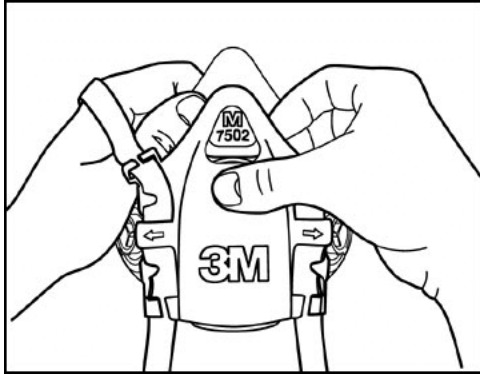

Fig. 17
3. Examine all plastic parts and gasket areas for signs of cracking or fatiguing and replace if necessary. Remove the exhalation valve cover and examine the exhalation valve and seat for signs of dirt, distortion, cracking, or tearing. Replace the valve if necessary. Secure the valve cover prior to use. (Fig. 17)
1. Remove 3M™ 7581 valve cover/Head Harness Assembly by pulling away from facepiece. (Fig. 17)
1. Remove 3M™ valve cover/Head Harness Assembly by pulling away from facepiece. (Fig. 17)